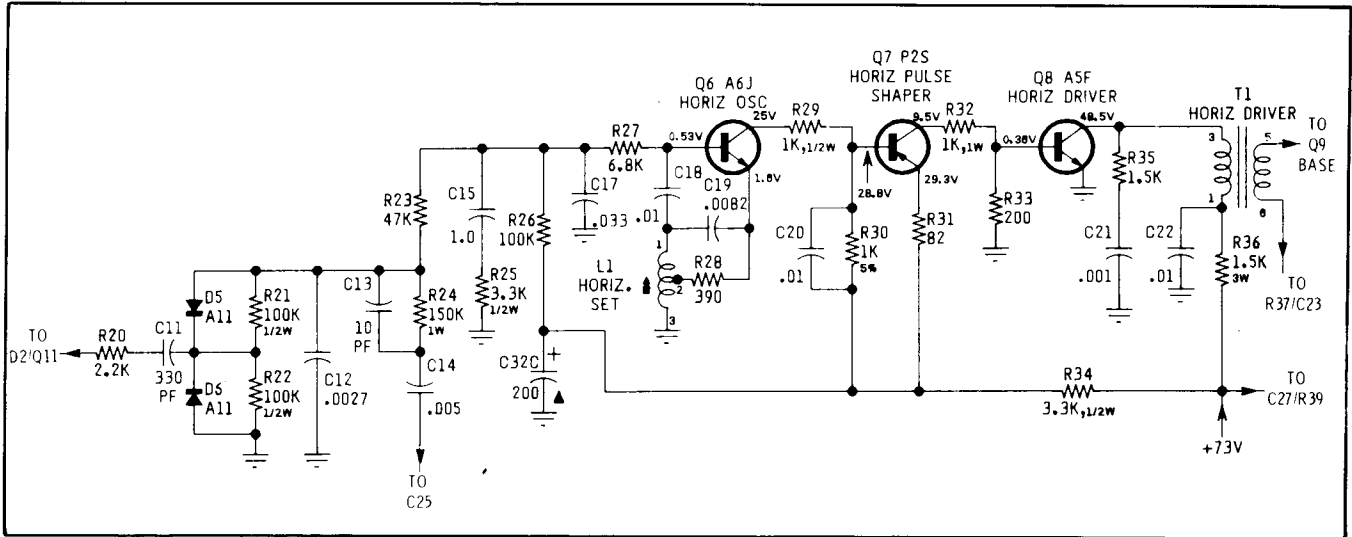

Figure 6 Motorola Monitor Horizontal Deflection Circuit
D. HORIZONTAL DEFLECTION CIRCUITS (See Figure 6)